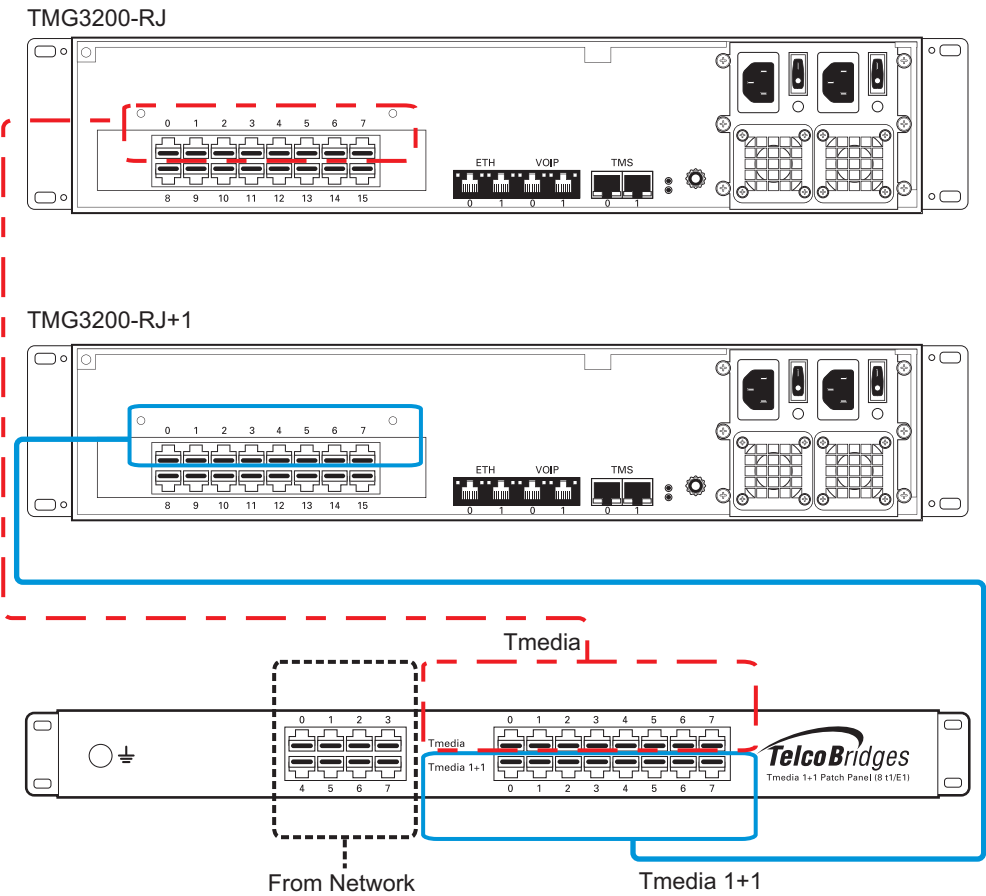

Figure 2.13 TMG3200-RJ and TMG3200-RJ+1 connecting to the TDM 1+1 8/T1/E1 1+1 patch panel
1. Connect T1/E1 lines 0-7 from the network section of the 1+1 patch panel to the remote equipment. See figure 2.13 on page 35.